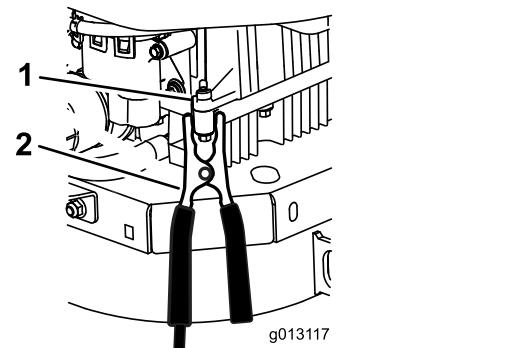

Figure 50
- Make the final connection on the **engine block** (not on the negative battery post) of the machine with the discharged battery, away from the battery, and stand back (Figure 50).